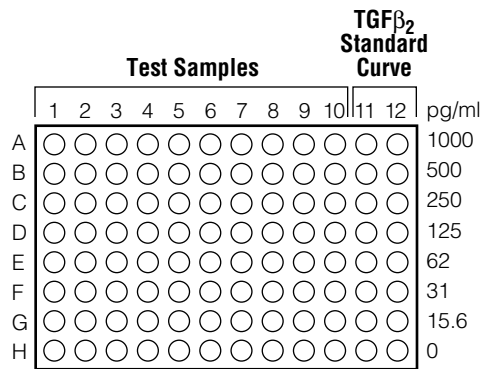

Figure 2. Recommended ELISA plate format for standard curve and test samples.
1. Following plate blocking, flick out the contents of the wells over a sink. Slap the plate 3 times upside down on a paper towel to remove residual liquid. Designate two columns of wells (16 wells) for the standard curve. To prepare the TGFβ₂ standard curve within the assay plate, add 100μl/well of the TGFβ Sample 1X Buffer to wells B through H in the two columns designated for the standard curve (Figure 2).
3. Immediately perform serial 1:2 dilutions (100μl/well) in the two columns designated for the standard curve. In the last set of wells for the standard curve, do not add any TGFβ₂. The final concentrations (in duplicate) in the TGFβ₂ control columns will be 0–1,000pg/ml (Figure 2).